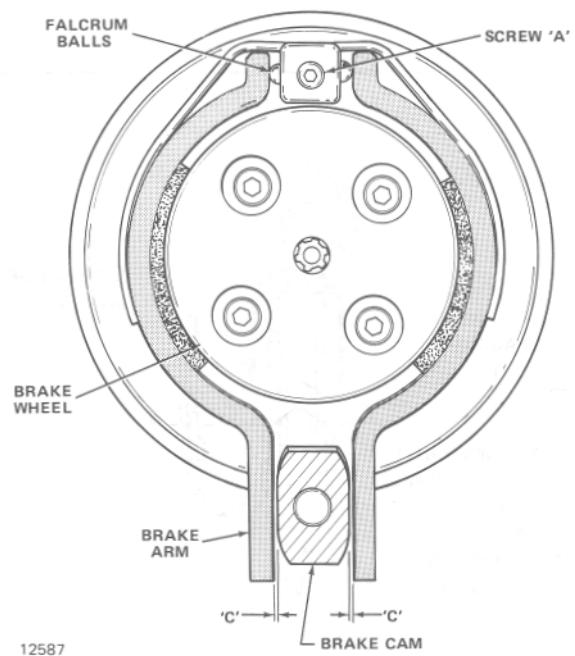

Figure 7-15. Brake Adjustments.
d. **Assembly of Brake.** If the brake linings show excessive wear, replace brake shoes. In reassembling the brake, the brake wheel assembly goes into position first and is fastened in place by the four screws referred to in paragraph 7-2.f.0). (See Figures 7-8 and 7-9.) Now place the steel fulcrum balls in their receiving cup, using a small amount of thick grease to hold them in place. The balls should retract completely into the receiving cups. Now place the shoes up to the fulcrum balls and brake wheel. Replace the brake spring, using the spreader tool to start the spring over the shoes. (See Figures 7-4 and 7-5.) Tap the spring into place. Adjust brake shoes per instructions in Figure 7-15.